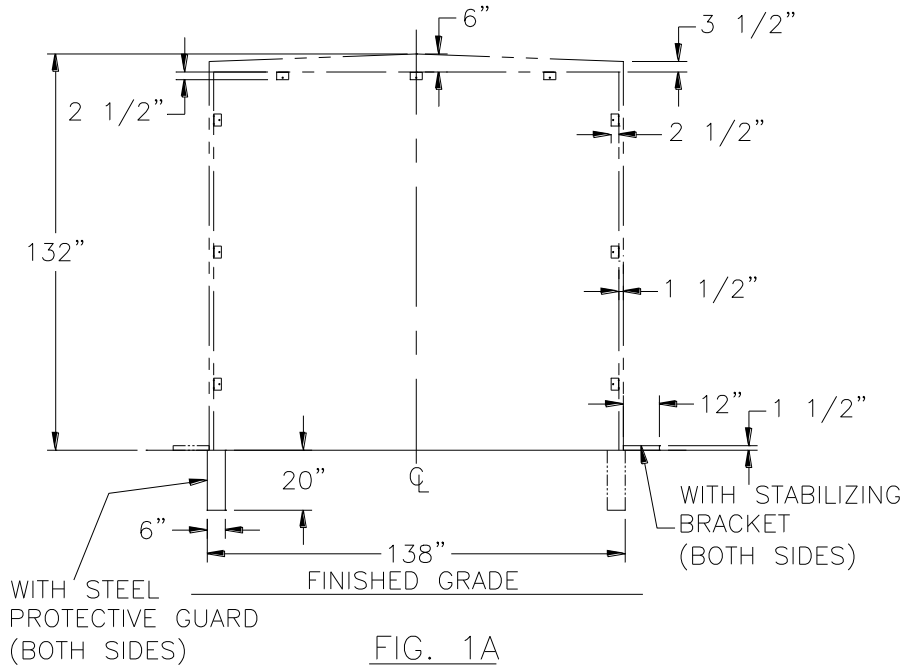

FIG. 1A
- **Make sure there is enough space to install shelter** (Figure 1a – Standard Unit).